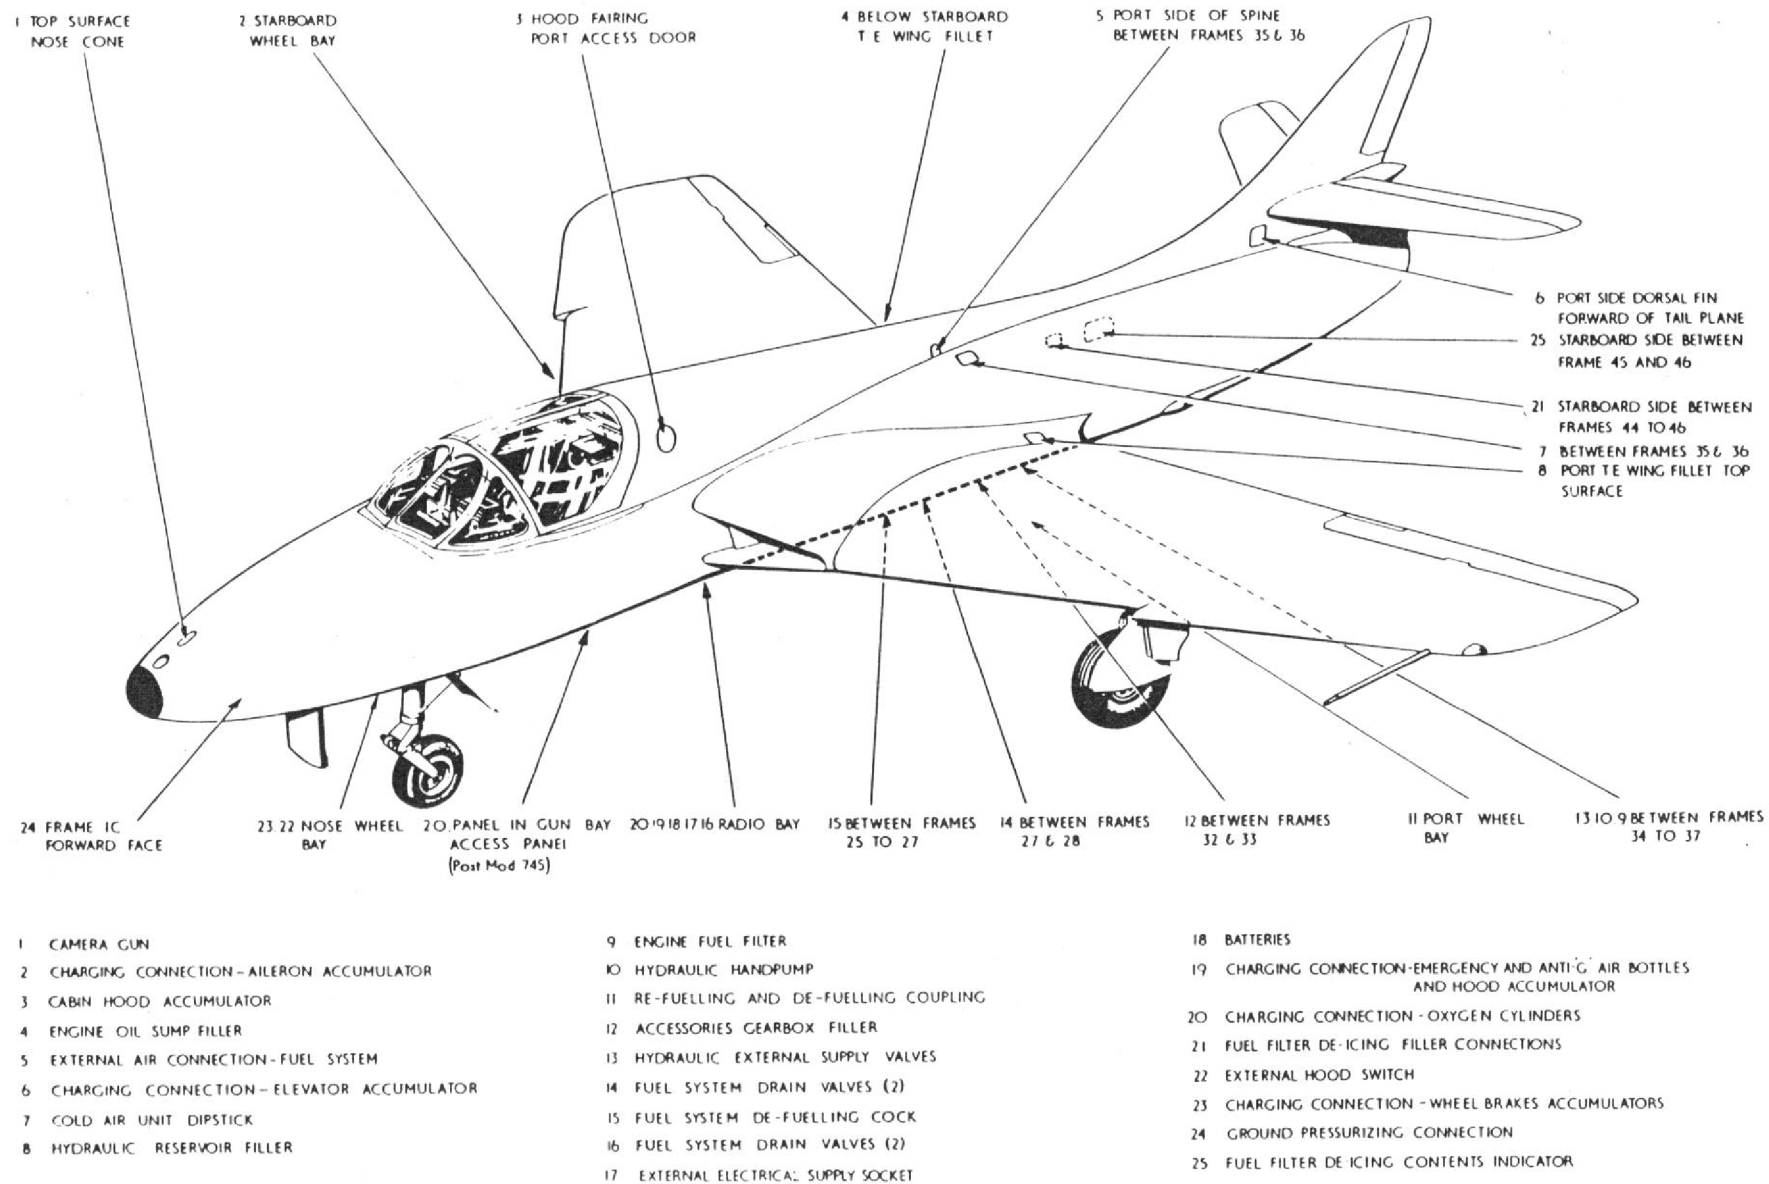

Fig.2 Servicing points
1. This chapter describes the replenishing of the various systems and certain servicing operations which may be found necessary during the preparation of the aircraft for flight, the location of the various servicing points being given in fig. 2. When the necessary operations are completed a check must always be made to ensure that all tools have been removed and that all panels and access doors lie flush with the surrounding surfaces and are securely fastened. The position of the access doors and the removable panels is shown in Sect. 2, Chap. 4. The operations described in the following paragraphs are grouped for convenience under their various systems and do not, therefore, constitute the order in which the operations are to be carried out.
2. The aircraft is refuelled under pressure through a 1½ in. standard coupling in the port wheel bay (fig. 2, item 11). High pressure refuellers, capable of refuelling at a rate of 150 gallons per minute at a pressure of 45–50 lb. per sq. in., should be used, but if these are not available, existing refuellers may be used with an adapter hose.
- (1) Ensure that the defuelling cock (fig. 2, item 15) accessible via the engine starter access door, in the bottom of the fuselage, is turned OFF and locked (para. 4(8)).
4. The aircraft is defuelled through the refuelling coupling in the port wheelbay, being either sucked out by a refueller or pumped out by the tank booster pumps. An air pressure supply is required to transfer the fuel from the centre, wing and drop tanks to the front tanks during this operation. The air pressure, which must not exceed 120 lbf/in² is fed into the system through an external supply connection in the spine of the centre fuselage (fig. 2, item 5). The procedure for defuelling the aircraft is as follows:—
- (5) Remove the locking pin from the lever of the defuelling cock, disengage the hinged locking plate from the lever and ◀ turn the cock (fig. 2, item 15) to ON. ▶
- (6) Start the refueller pump to draw out fuel.
- (7) As soon as the refueller commences to suck air, switch on the booster pumps to ensure that all fuel in the system is drained off. Switch off the booster pumps as soon as the refueller commences to suck air again and stop the refueller pump. Disconnect the external power supply or set the battery master switch to OFF. Set the engine master switch to OFF.
- (8) Turn the defuelling cock to OFF, move ▶ the hinged locking plate to engage with the lever of the cock and lock in position with the locking pin.
5. Drainage of water and sediment that may have accumulated in the fuel system is facilitated by the provision of small drain valves located at the lowest points in the fuel system, together with a small plug in the engine filter casing. The position of these valves is indicated in fig.2, items 14 and 16. These valves and drain plug
6. Access to the filler cap of the hydraulic reservoir is obtained by removing an access panel from the top surface of port wing filler (fig. 2, item 8). The filler cap is provided with a sight glass to facilitate the checking of the fluid level in the reservoir.
7. The high pressure air bottles for the emergency operation of the alighting gear and landing flaps and the anti-G air bottles are mounted at the rear of the cabin. It is essential to ensure that these bottles are fully charged before each flight. Pressure gauges are installed in the cabin to register the pressure in the bottles; should the indicated pressure be below that given in the Leading Particulars, the bottles must be recharged to the correct pressure through the in situ charging valve (fig. 2, item 19).
8. Access to the hydraulic accumulators for the wheel brakes, together with their charging connection is from within the nose wheel bay. The pressure is indicated on the brake accumulator pressure gauge in the cabin. *If after dissipating the hydraulic pressure, by operating the brake lever a number of times, the pressure shown on the gauge is below that stipulated in the Leading Particulars, the accumulators must be recharged through the charging connection (fig. 2, item 23).*
9. The hydraulic accumulator for the aileron boosters, together with its charging connection and associated pressure gauge, is accessible from within the starboard wheel bay. *The hydraulic pressure should be dissipated by operating the aileron controls until the hydro-booster jacks cease to operate. The air pressure should then be checked and if the pressure shown on the gauge is below that stipulated in the Leading Particulars the accumulator must be recharged through the adjacent charging connection (fig. 2, item 2).*
10. Access to the hydraulic accumulator for the elevator booster together with its charging connection, may be obtained by removing an access panel (fig. 2, item 6) in the port side of the dorsal fin, just forward of the tail plane. The access panel is provided with a window to enable the accumulator pressure to be checked by reference to a pressure gauge located adjacent to the accumulator. On completion of recharging operations the valve cap must be replaced, tightened and the outer sleeve of the cap wire-locked to the hexagon of the valve body.
12. Access to the charging valve for the oxygen cylinders can be obtained after removing a panel at the rear of the gun bay access panel (post Mod. 745) or the radio access door (pre Mod. 745) (fig. 2, item 20) on the under-side of the fuselage. The cylinders must be recharged in situ to the pressure quoted in the Leading Particulars. The procedure for in situ charging is described in the relative equipment publication.
13. The main and standby batteries are carried in the radio bay in the front fuselage, access being obtained via the radio access doors (fig. 2, item 18). These batteries must be checked periodically for state of charge as described in Sect. 5, Chap. 1, which also contains instructions for the changing of the batteries.
15. An access door in the top port side of the centre fuselage (*fig.2, item 7*), between frames 35 and 36 gives access to the cold air unit dipstick and filler orifice. The oil level in the unit should be examined daily and topped-up as necessary with oil as specified in the Leading Particulars until it reaches the full mark on the dipstick. The oil should be poured through the dipstick orifice in small quantities, otherwise a false level will be indicated on the dipstick.
16. The filler cap for the engine oil sump is accessible through an access panel situated in the starboard side of the fuselage, just below the wing trailing edge fillet (*fig.2, item 4*). The sump has a capacity of 16 pints and the oil level should be checked with the aircraft on level ground and with the engine cold. The level is indicated by a graduated sight glass window in the sump wall. Only oil as specified in the Leading Particulars must be used. Before replacing the filler cap ensure that the sealing washer in the filler neck is clean and undamaged and when replacing the cap, ensure that the self-locking wing nut is tightened down securely.
17. The accessories gearbox is mounted in the bottom of the engine bay just aft of the rear spar on the port side of the aircraft and an access panel (*fig.2, item 12*) in the underside of the centre fuselage is used to gain access to the filler neck and dipstick. Before checking the level of the oil ensure that the dipstick is pressed fully home before removing. If the oil level, as indicated on the dipstick, is low, the gearbox must be re-
18. The fuel filter de-icing tank is located between frames 44 and 45 on the starboard side of the rear fuselage. The replenishment couplings and contents indicator are mounted adjacent to the tank (*fig.2, items 21 and 25*). The tank is replenished as follows:—